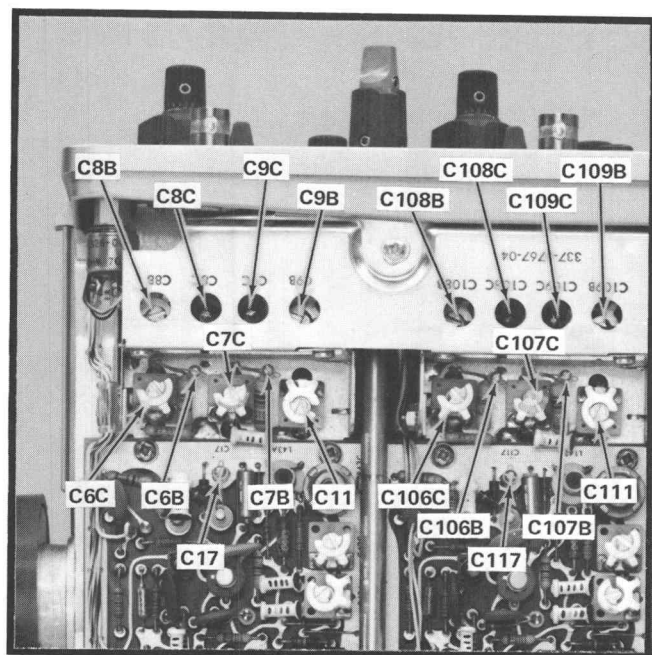

Fig. 5-6. Location of CH 1 and 2 VOLTS/DIV switch compensation.
f. ADJUST—CH 1 VOLTS/DIV switch series compensation as given in Table 5-4 for optimum square corner on the displayed waveform (use low-capacitance screwdriver). Readjust the generator output at each switch position to provide six divisions of deflection. Fig. 5-6 shows the location of the capacitors.
j. ADJUST—CH 2 VOLTS/DIV switch series compensation as given in Table 5-4 for optimum square corner on the displayed waveform (use low-capacitance screwdriver). Readjust the generator output at each switch position to provide six divisions of deflection. Fig. 5-6 shows the location of the capacitors.
e. ADJUST—CH 2 VOLTS/DIV switch shunt compensation as given in Table 5-5 for optimum square corner on the displayed waveform (use low-capacitance screwdriver). Readjust the generator output at each switch position to provide six divisions of deflection (maximum of about three divisions obtainable in the 2 position). Fig. 5-6 shows the location of the capacitors.
i. ADJUST—CH 1 VOLTS/DIV switch shunt compensation as given in Table 5-5 for optimum square corner on the displayed waveform (use low-capacitance screwdriver). Readjust the generator output at each switch position to provide six divisions of deflection (maximum of about three divisions obtainable in the 2 position). Fig. 5-6 shows the location of the capacitors.